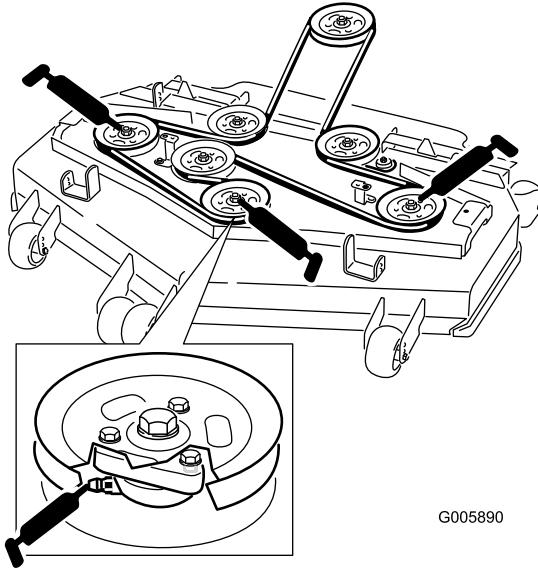

Figure 25
4. Grease the three spindle bearings under the pulleys until grease comes out the lower seals (Figure 25).
5. Grease the fittings on the push arms (Figure 25).